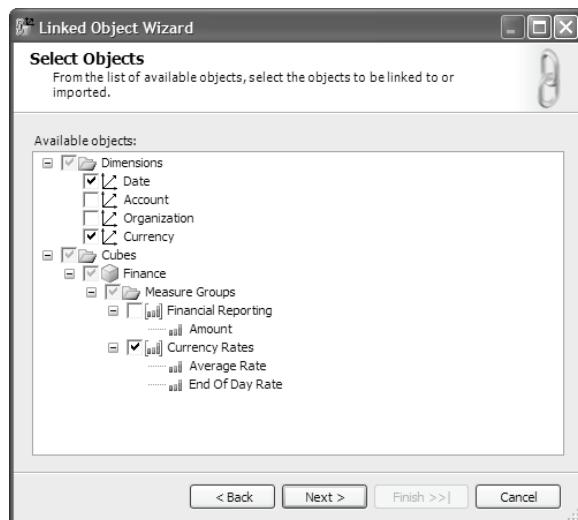

Figure 5.40 Use the Linked Object Wizard to link to dimensions and measure groups located in other cubes.
4. In the Select Objects step (Figure 5.40), the Linked Object Wizard asks you which dimensions and measure groups you would like to link to. Since measure groups become part of the cube definition, you need to expand the Cubes node to select the desired measure group(s). Link the Date and Currency dimensions and the Currency Rates measure group in one step.